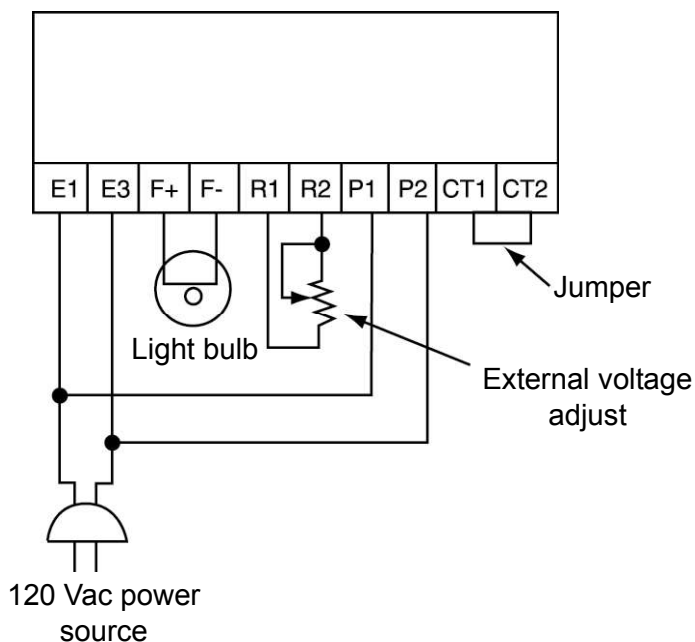

Figure 9: Operational test connection diagram
1. Connect regulator as shown in Figure 9.
5. Connect light bulb across terminals F+ and F- and wires to terminal E1, E3, P1 and P2 as shown in Figure 9.